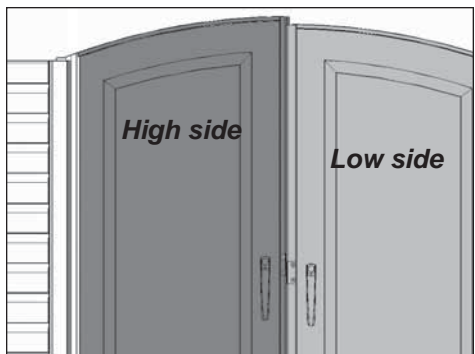

Fig. 1
19.1: In some cases, the shed doors may not completely line up at the tops (fig. 1). When this happens, identify which side is higher and use a shim (BD) to slightly raise the back corner of the high side until doors line up (fig. 2). If doors need further adjustment, insert another shim under the front corner opposite of the first shim. If the doors still need further adjustment, stack additional shims (one at a time) alternating between the back and front shims.